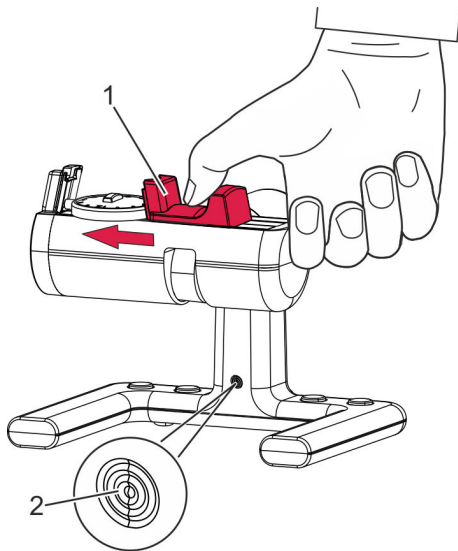

Fig. 13: Releasing the clamping jaw
3. → Carefully guide the clamping jaw (Fig. 13/1) to the watch or the watch movement.
- The LED on the device (Fig. 13/2) flashes at the same frequency as the watch beats.